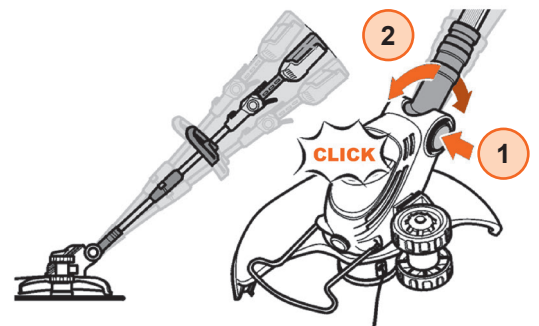

Figure 9
Five operating angles can be adjusted on the lawn trimmer (See Figure 9). This allows you to easily reach places in the garden which are problematic and difficult to access. The cutting head should always be parallel to the ground. Press the locking button ①. Set the required operating angle ②. Release the locking button.